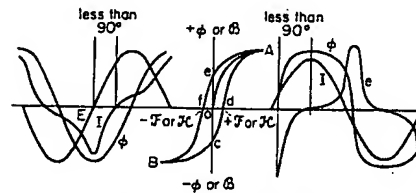

FIG. 2-10 Periodic waves of current, flux, and emf; hysteresis loop.
**66. The Hysteresis Loop.** When a sample of iron or steel is subjected to an alternating magnetization, the relation between  $B$  and  $H$  is different for increasing and decreasing values of the magnetic intensity (Fig. 2-10). This phenomenon is due to irreversible processes which
result in energy dissipation, producing heat. Each time the current wave completes a cycle, the magnetic flux wave must also complete a cycle, and the elementary magnets are turned. The figure  $AefBcdA$  in Fig. 2-10 is called the *hysteresis loop*.
**67. Retentivity.** If the coil shown in Fig. 2-6 is excited with alternating current, the ampere-turns and consequently the mmf will, at any instant, be proportional to the instantaneous value of the exciting current. Plotting a  $B$ - $H$  (or  $\phi$ - $\mathcal{F}$ ) curve (Fig. 2-10) for one cycle, the closed loop  $AefBcdA$  is obtained. The first time the iron is magnetized, the *virgin*, or *neutral*, curve  $OA$  will be produced; but it cannot be produced in the reverse direction  $AO$ , because when the mmf drops to zero there will always be some remaining magnetism ( $+Oe$  or  $-Oc$ ). This is called *residual magnetism*; to reduce this to zero, an mmf ( $-Of$  or  $+Od$ ) of opposite polarity must be applied. This mmf is called the *coercive force*.